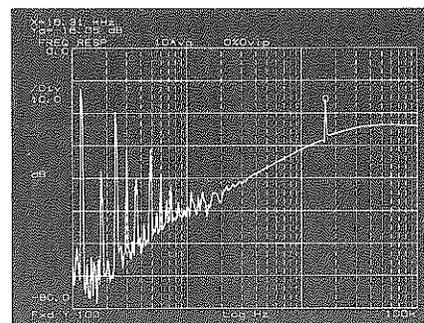

Figure 3-2
9. **Start** Press the yellow **START** key. The 100 Hz-to-100 kHz frequency response will be displayed automatically. The result shown in Figure 3-2 is from the same crystal resonator used in the Linear Resolution example.